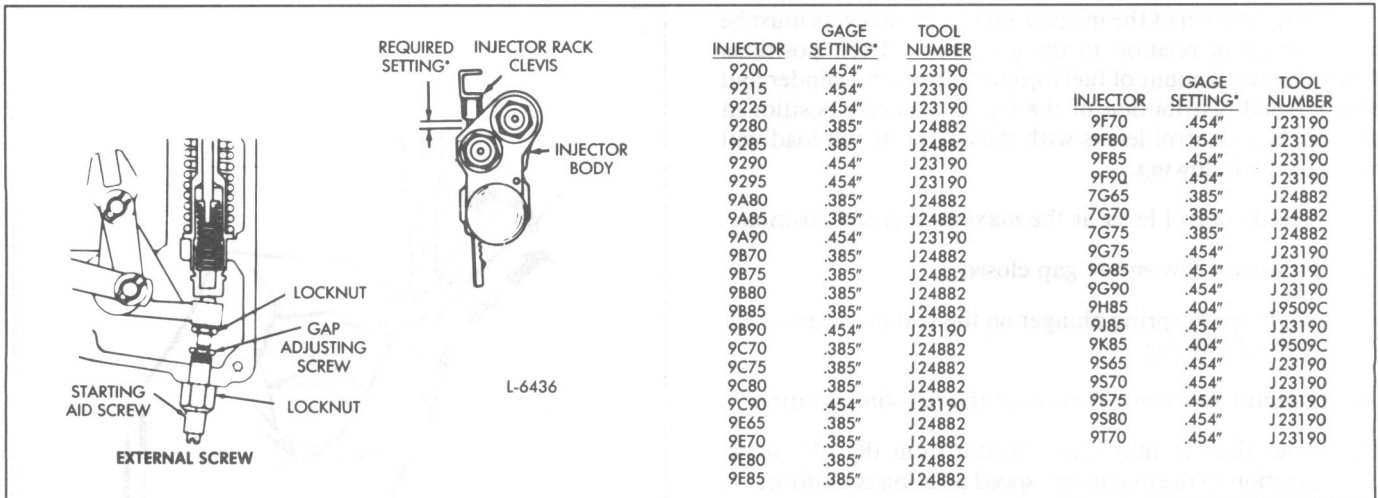

Fig. 12 – Starting Aid Screw Adjustment
- b. Adjust the starting aid screw to obtain the required setting between the shoulder on the injector rack clevis and the injector body (Fig. 12). Select the proper gage and measure the setting at No. 2R cylinder. When the starting aid screw is properly adjusted, the gage should have a small clearance of 1/64" in the space along the injector rack shaft between the rack clevis and the injector body.